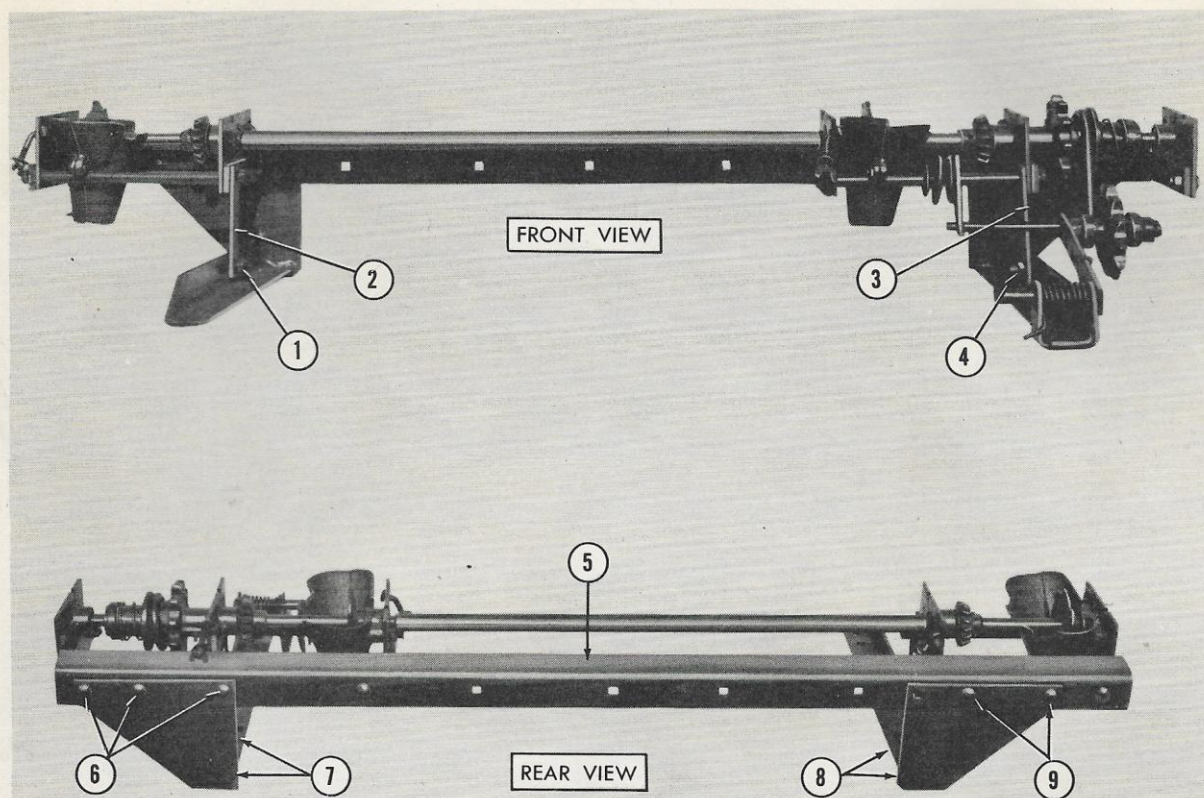

Figure 8
10. Place the planter main frame (5), figure 8, on the ground and attach the left and right angle support as follows:
- a. Bolt the left hand angle support (7), Figure 8, with chain idler welded to it, to the left end of planter main frame (5) with three bolts (6) provided on main frame angle. Secure with lock washers and nuts as shown in Figure 8, rear view.
- b. Bolt the right hand angle support (8) to the right end of planter main frame (5) with two bolts (9), as shown in rear view, Figure 8. Secure with lock washers and nuts provided on the main planter frame angle.
- c. Bolt the right hand hopper forward support (2) to the right hand support angle with bolt and nut (1) provided, as shown in Figure 8, front view.
- d. Bolt the left hand hopper forward support (3) to the left hand support angle with bolt and nut (4) provided, as shown in Figure 8, front view.